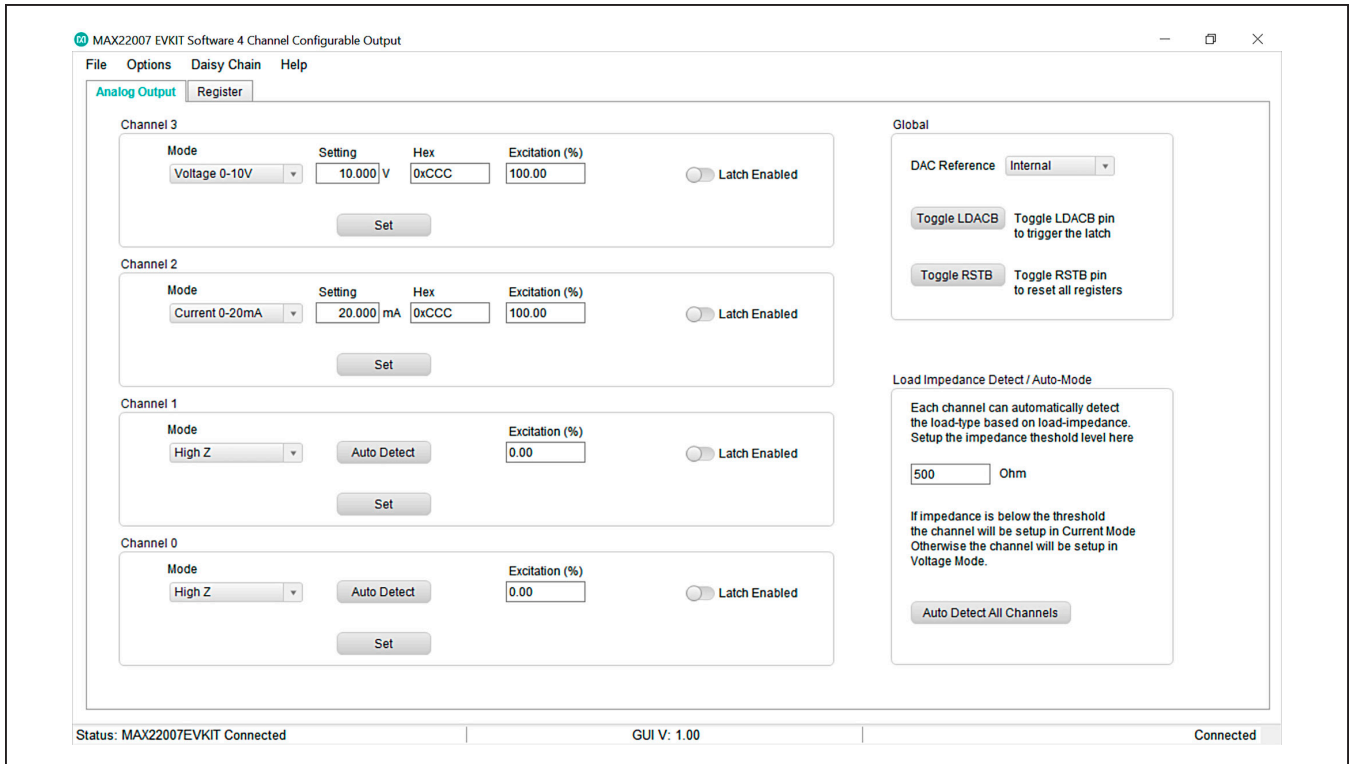

Figure 1. MAX22007 EV Kit Software, Analog Output Tab
- 6) Start the EV kit software by opening its icon in the Windows **Start | Programs | Maxim Integrated** menu. The EV kit software **Analog Output** tab appears, as shown in Figure 1.
- 7) Verify that **Status: MAX22007EVKIT Connected** is displayed on the status bar at the bottom of the application window (Figure 1).